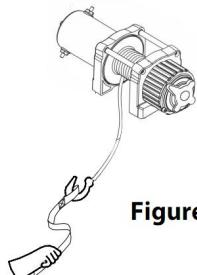

Figure 2
9. **ALWAYS USE THE HAND SAVER When** guiding the wire rope in or out.(See Figure 2).